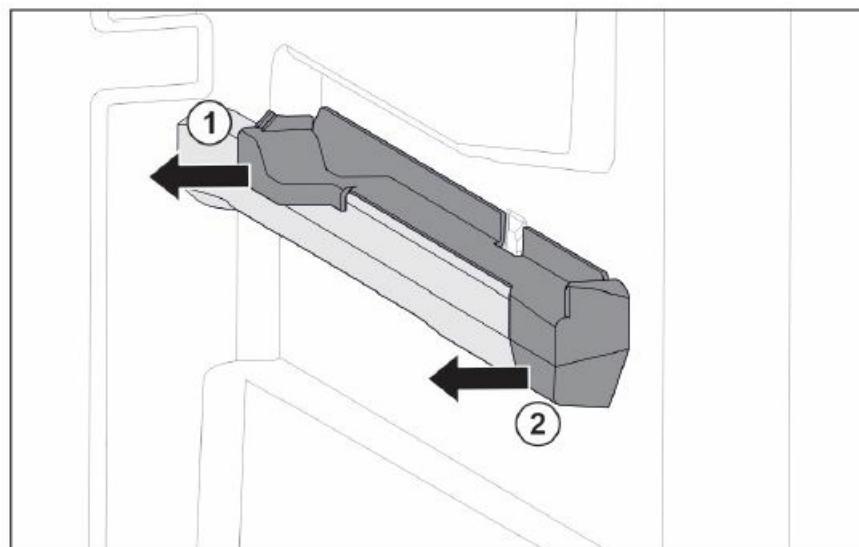

Fig. 28 Attachment on the right molded rib
- Pull off attachment at the back sideways. Fig. 28 (1)
- Pull off attachment at the front sideways. Fig. 28 (2)